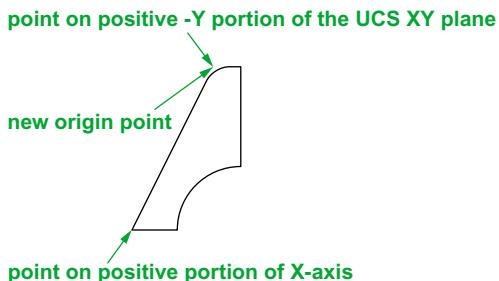

**Fig. 17.12** Third example **UCS** – outline for 3D model
3. Construct the outline (Fig 17.12) and extrude to a height of **120**.